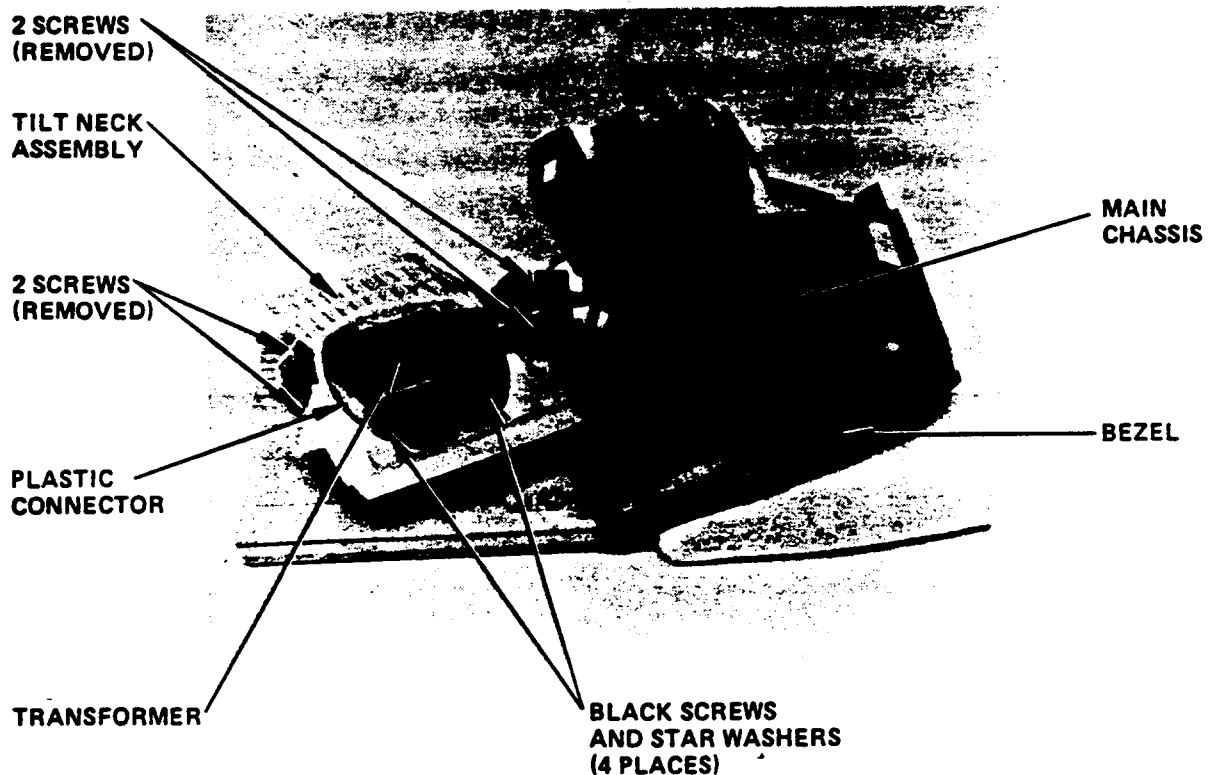

Figure 2-11. Replacing the Transformer
2. Lift off the main chassis, CRT and Yoke Assembly and expose the interior of the tilt neck assembly. Rotate 90 degrees and set the CRT and Yoke Assembly on a padded surface (refer to Figure 2-11).
To replace the Transformer, perform the removal instructions in the reverse order. When installing the tilt neck assembly over the main chassis be sure to tuck the tilt neck assembly flange under the Bezel before replacing the 4 screws (refer to Figure 2-11).